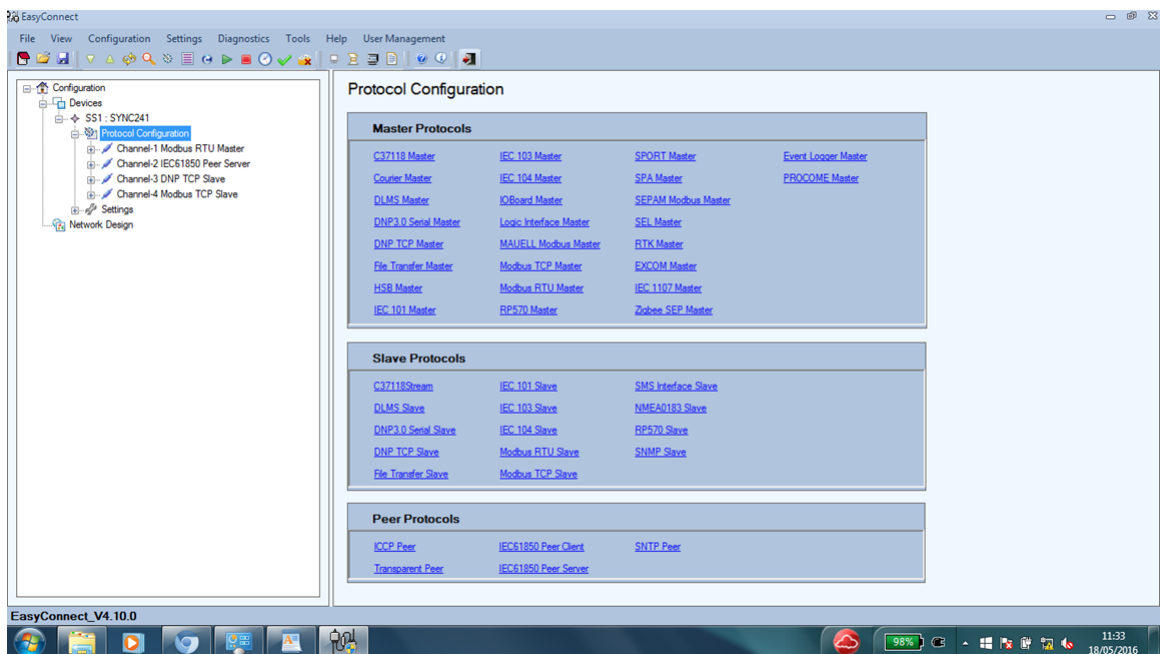

Figure E-14: Protocol Configuration
- In the left-hand tree view, select **Protocol Configuration**. When the new settings are received from the communications module, the configuration tree updates as shown in Figure E-14.